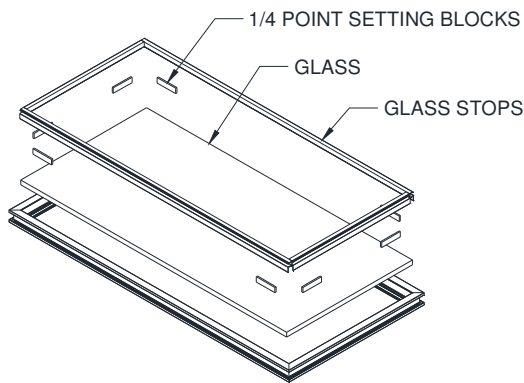

Figure 18:
- Apply a 1/2" x 1/2" x 4" bead of compatible sealant from each corner on inner flange of panel (Figure 18).